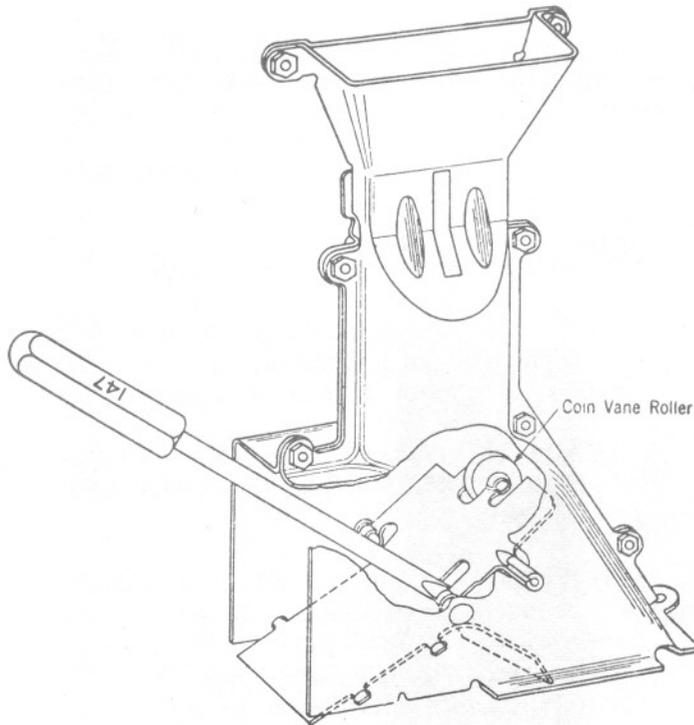

Figure 12
- (4) If vane is in good condition, it may be re-used. If necessary, free coin vane roller with KS-7860 petroleum spirits. Clean vane thoroughly using KS-2423 cloth moistened with petroleum spirits. Vane shall be replaced if not in good condition.
- (5) When remounting coin vane, assure that lock washer is under head of the bearing screw. Check vane and hopper clearance as in Paragraph 5.02.
- (6) If vane scrapes on front of hopper, place No. 147 tool or equivalent, such as a No. 35 tool or KS-6854 screwdriver, as shown in Figure 12 and adjust front bearing outward by turning tool slightly. If vane scrapes against back of hopper, adjust rear bearing outward as described. In adjusting vane, be careful not to introduce any binding at bearings.
- (7) If vane binds at front bearing, place No. 147 tool or equivalent between coin vane and back wall of coin hopper and turn tool slightly. Tool should be placed about opposite coin vane pin in order not to produce burrs on coin vane or on shoulder of